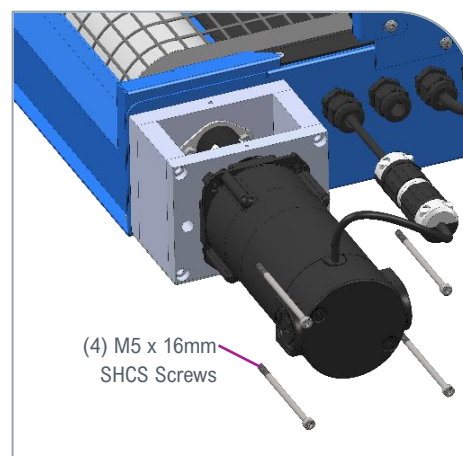

**Figure 9.** Slide Motor Coupling Over Motor Shaft
3. Slide Motor Coupling onto the Motor shaft, but do not tighten the 1/4-20 x 1/2" set screw (Figure 9).